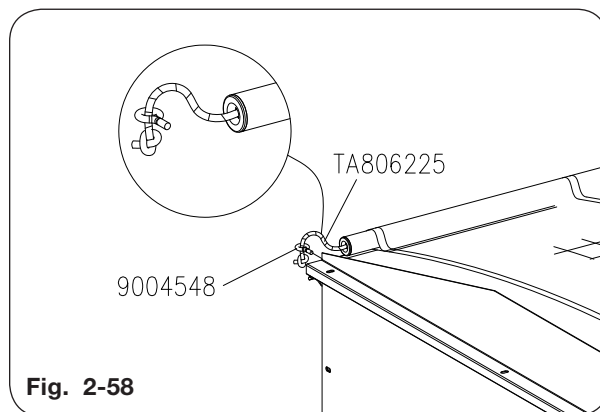

Fig. 2-58
13. Unroll the tarp making sure hose (TA806225) remains over end of stretch cord. Insert stretch cord through the top of the eye bolt (9004548). With the tarp rolled up under the latch plate, leave 2 or 3 inches of slack in the stretch cord and knot below the eyebolt. Cut off additional cord a couple inches below the knot. To keep cord from fraying, use a lighter to heat and sear loose strands. See Figure 2-58.